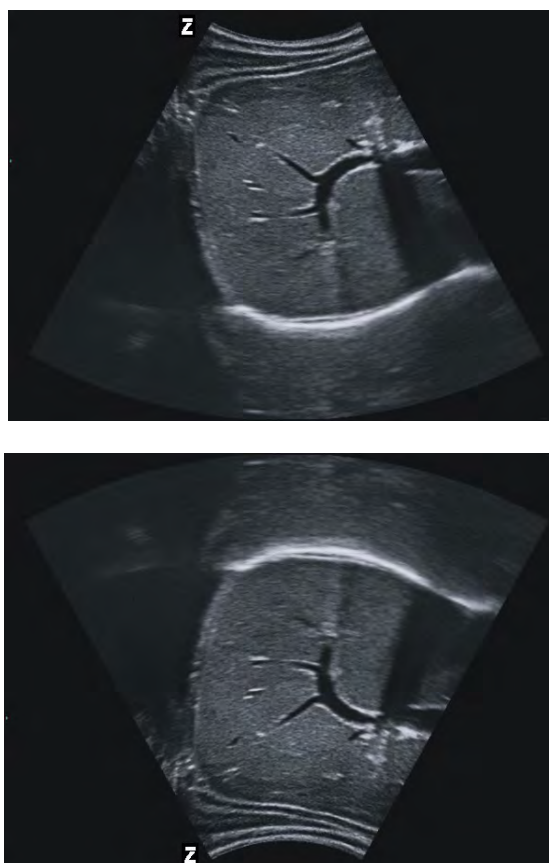

Figure 54: Up/Down Inversion
- \* Up/Down Inversion (Inv) • **Control panel:** In B mode Live state, click on **Inv** to reverse the image upwards or downwards. The mark • represents the orientation for the start of the scan with the probe and can be moved up or down, as shown in Figure 54